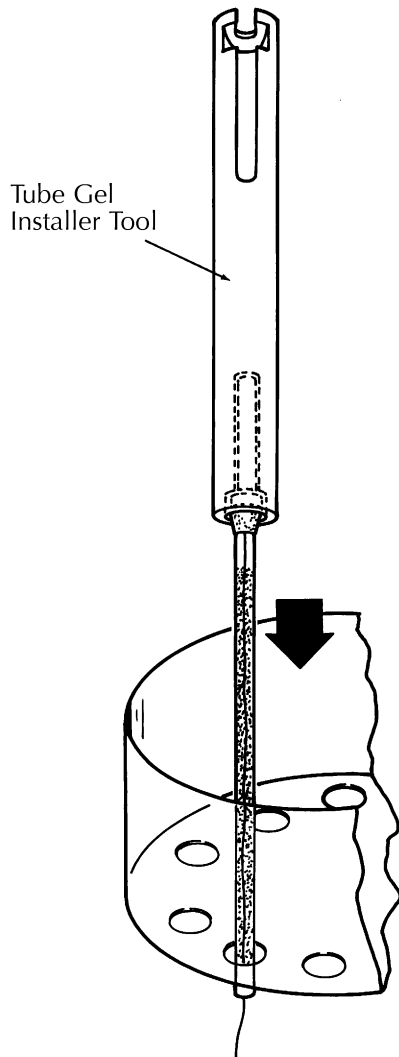

Figure 9. Inserting the tubes into the upper reservoir
6. Transfer the tube to the running rack using the gel installer tool. Push down the grommet until its top is snug against the top of the running rack (Figure 9).